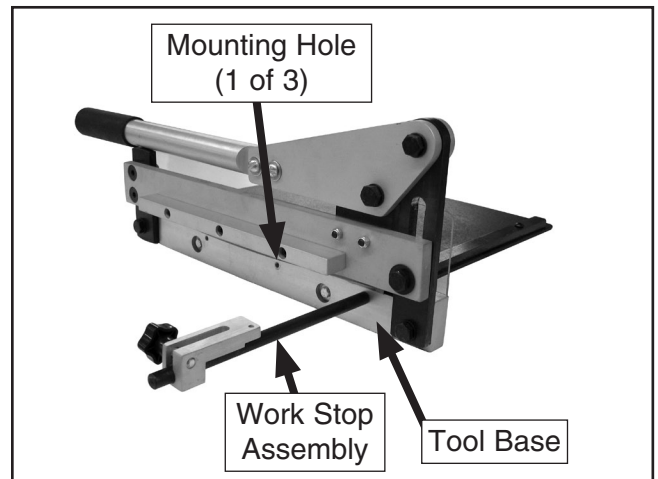

Figure 5. Work stop attachment.
3. Attach the work stop assembly by threading it into one of the three threaded holes on the side of the tool base (Figure 5).